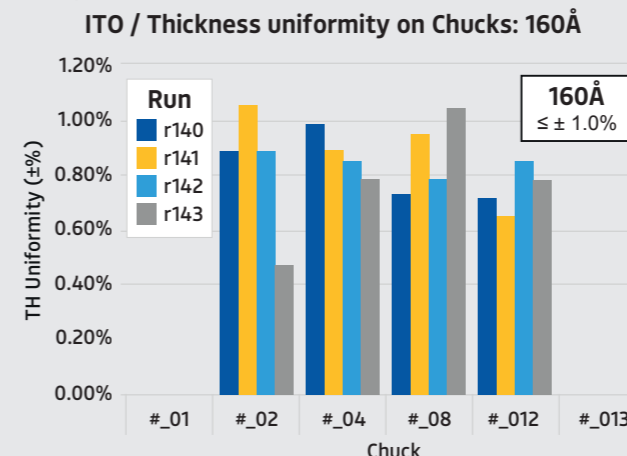

Figure 4a: Thickness uniformity for a thin film
sputter module with the optimized sputter source and process kits discussed above. The VHC has the capability for temperatures to 800°C. Figure 4a shows wafer temperature measured by thermal couple varying chuck temperatures. With chuck temperature heated up to 800°C, the wafer temperature reaches 700°C offering us a much wider range of temperature for deposition. Preliminary results already show the benefit of high temperature deposition. For example, for deposition of AIN on a Si wafer (Figure 4b), we see decreasing RC FWHM with increasing chuck temperature. Similarly, for bottom electrode (BE) layer deposition, the specific resistivity decreases with increasing chuck temperature (Figure 4c). And in the specific example shown here, we could show that resistivity of this type of electrode improved by more than 20% when we increased the chuck temperature from 350°C to 800°C.